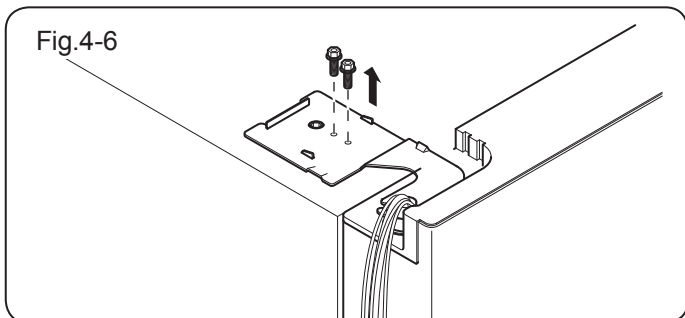

Fig.4-7
1. Undo the hinge cover screws and remove the cover (Fig.4-7). Disconnect all wires except for the grounding wire.